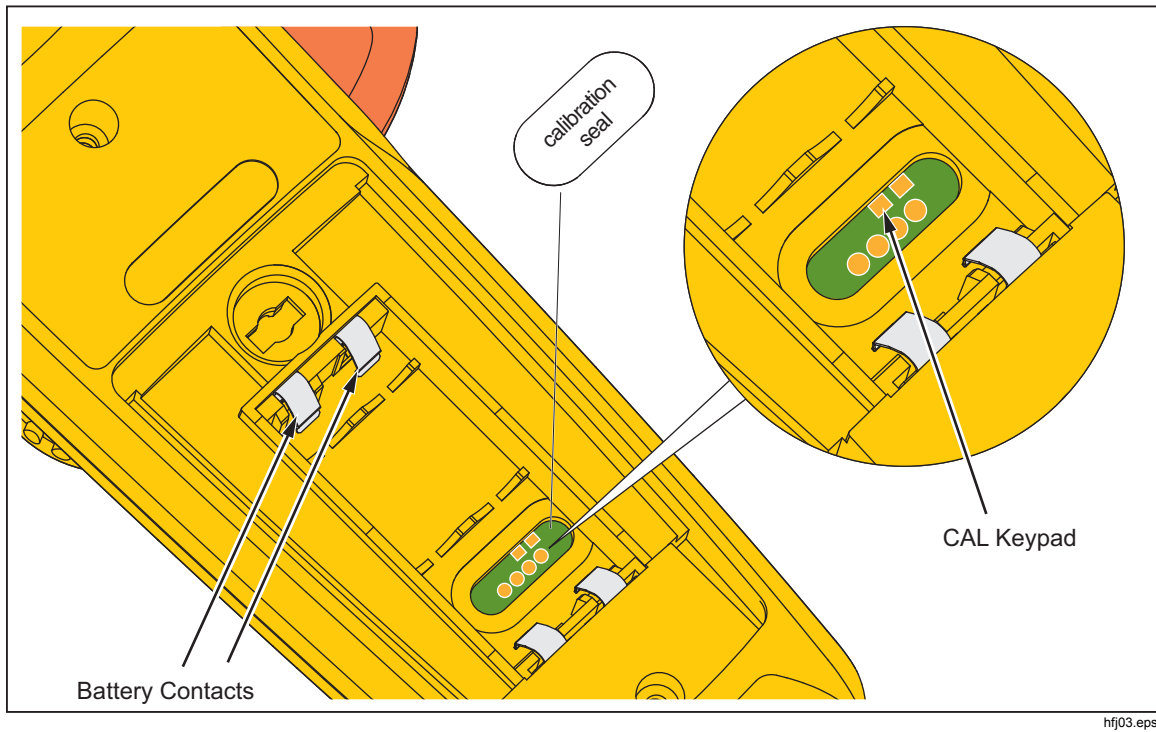

Figure 6. Short the CAL Keypad
2. Apply 3.0 V across the battery contacts on the pca. Note the polarity that is shown in Figure 6.
5. Short across the CAL keypad on the pca and then remove the short. See Figure 6. This puts the Product into calibration mode.